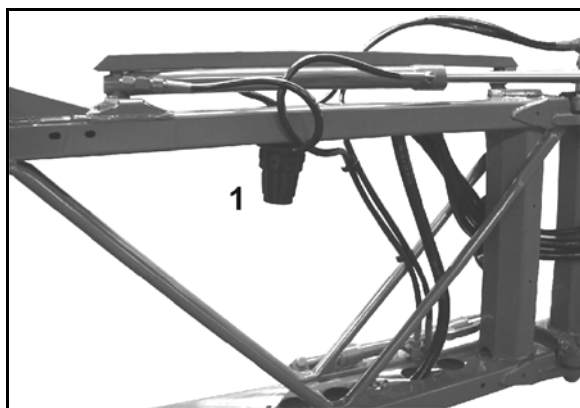

Fig. 187
- Clean the line filters (Fig. 187/1) 3 - 4 months depending on operating conditions).